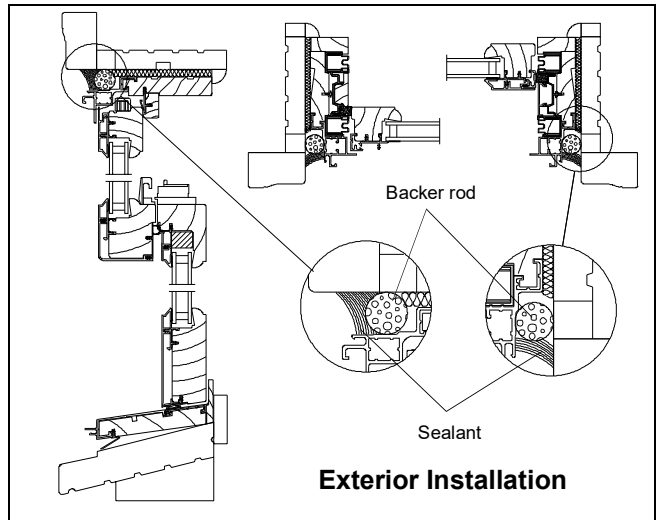

Figure 20
18. For **exterior installed applications**, apply backer rod between insert frame and existing window frame. Run a bead of sealant to bridge the gap between existing window frame and/or exterior casing. See figure 20.